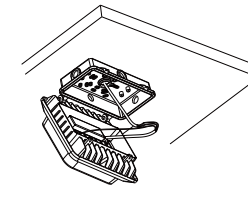

Figure 2-6
6. Connect the input line and ground; If the fixture is equipped with sensor, adjust the sensor settings; Take relevant waterproof measures after the wires are connected ;Figure 2-6